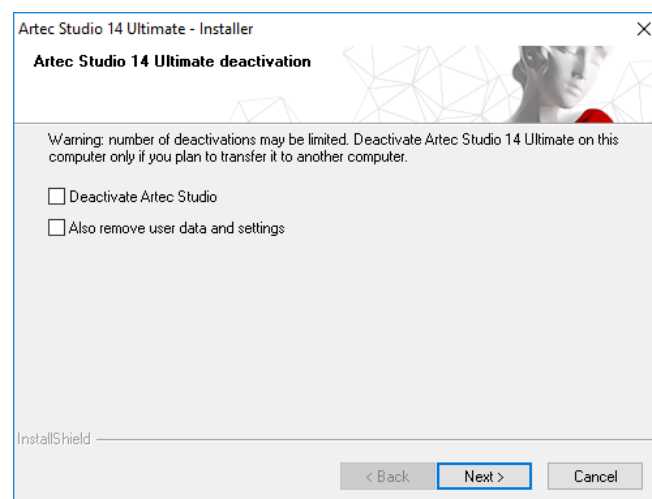

Figure 33: Deactivation of Artec Studio.
3. The dialog shown in **Figure 33** will appear. Select the *I understand. Deactivate Artec Studio* checkbox.